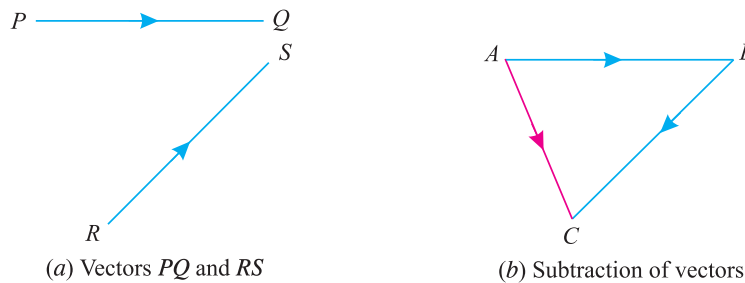

Fig. 1.4.
6. *Subtraction of vectors.* Consider two vectors  $PQ$  and  $RS$  in which the vector  $RS$  is required to be subtracted as shown in Fig. 1.4 (a)
Take a point  $A$ , and draw line  $AB$  parallel and equal in magnitude to the vector  $PQ$  to some convenient scale. Through  $B$ , draw  $BC$  parallel and equal to the vector  $RS$ , but in *opposite direction*, to that of the vector  $RS$  to the same scale. Join  $AC$ , which will give the resultant when the vector  $PQ$  is subtracted from vector  $RS$  as shown in Fig. 1.4 (b).